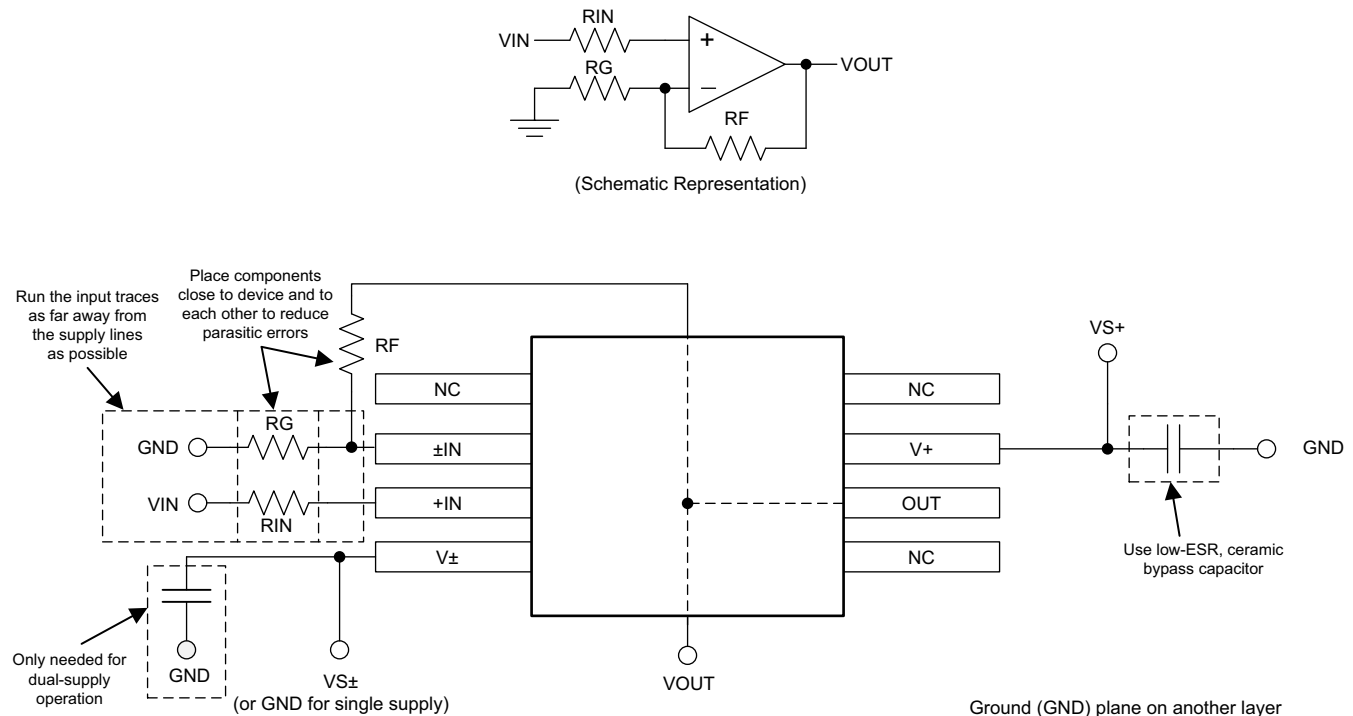

Figure 52. Operational Amplifier Board Layout for Noninverting Configuration
- Place the external components as close to the device as possible. As shown in Figure 52, keeping RF and RG close to the inverting input minimizes parasitic capacitance.